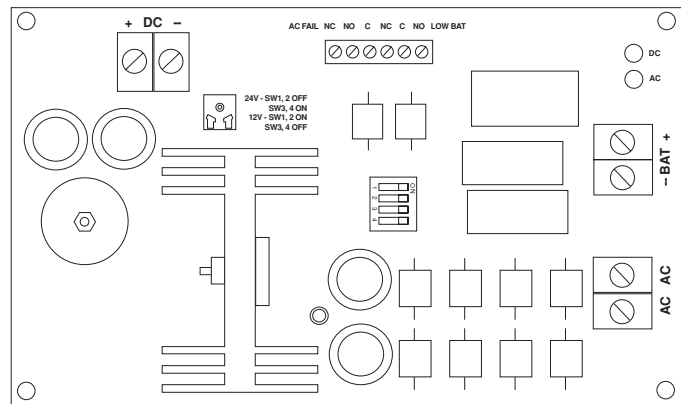

Fig. 1
2. Connect 28VAC / 175VA transformer to the terminals marked [AC, AC], (Fig. 1).
4. Connect devices to be powered to the terminals marked [+ DC –] (Fig. 1).
6. For Access Control applications batteries are optional. When batteries are not used, a loss of AC will result in the loss of output voltage. When the use of stand-by batteries is desired, they must be lead acid or gel type. Connect battery to the terminals [– BAT +] (Fig. 1) as marked on the unit (battery leads included). Use two (2) 12VDC batteries connected in series for 24VDC operation.
7. Connect supervisory trouble reporting devices to the outputs marked [LOW BAT, AC FAIL] supervisory relays marked [NC, NO, C] (Fig. 1). Use 22 AWG to 18 AWG for AC Fail and Low Battery reporting.